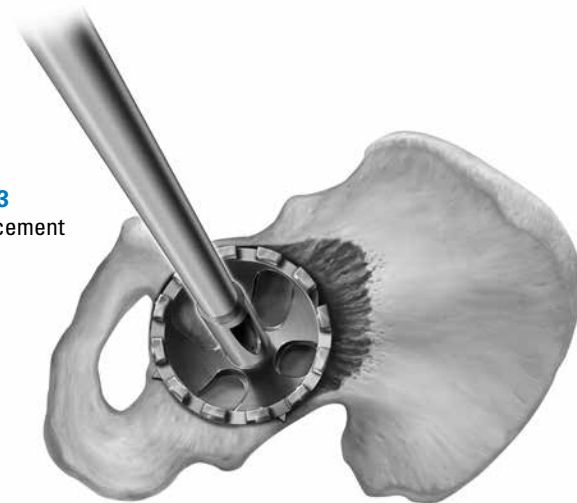

Figure 3
4. Introduce the Shell Trial into the reamed acetabulum and impact into place (Figure 3).